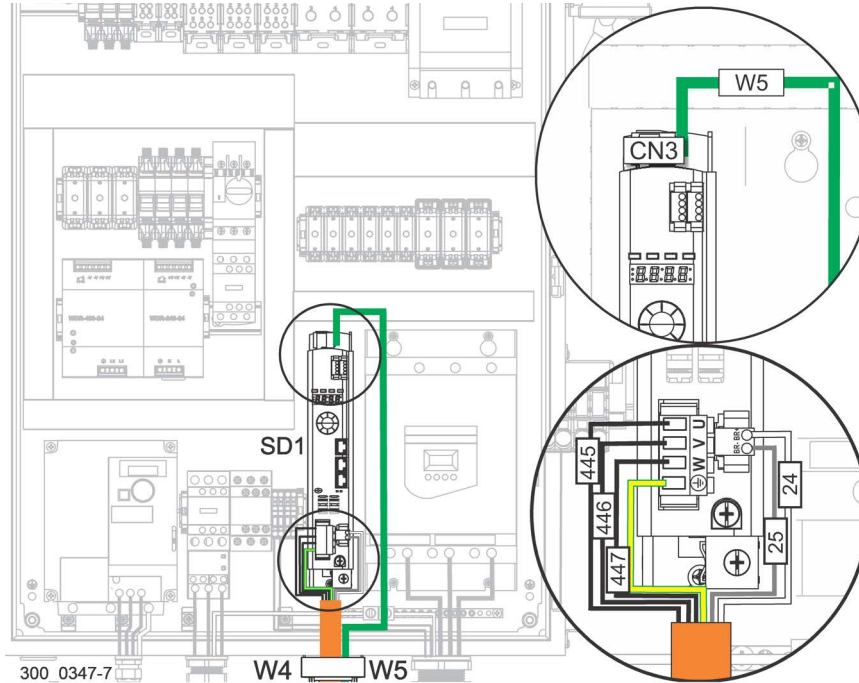

FIG. 3-21
1. Route the up/down servo motor cable (W5) through the connector labeled W5 located at the bottom of the high voltage box. **See Fig. 3-21.**